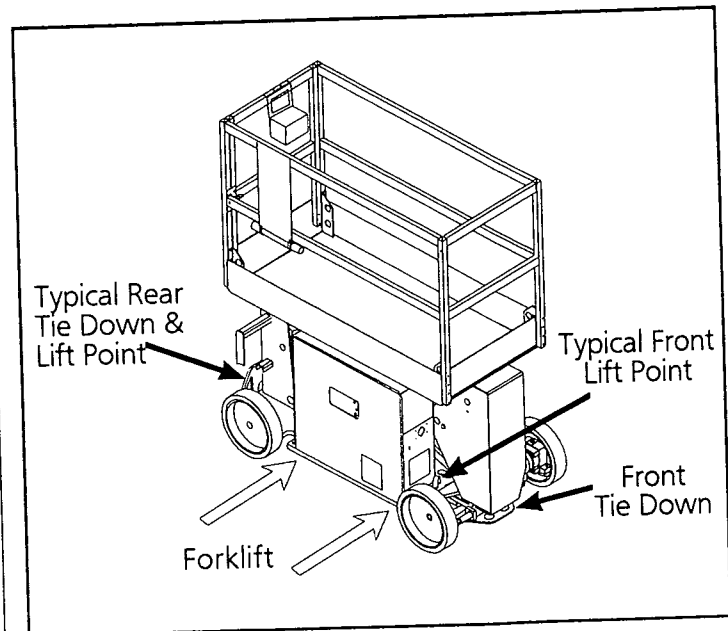

Figure 2-3: Forklifting
Forklift from the side of the platform by lifting under the modules (Figure 2-3).
2. Secure the work platform to the transport vehicle with chains or straps of adequate load capacity attached to the chassis tie down lugs (Figure 2-3).